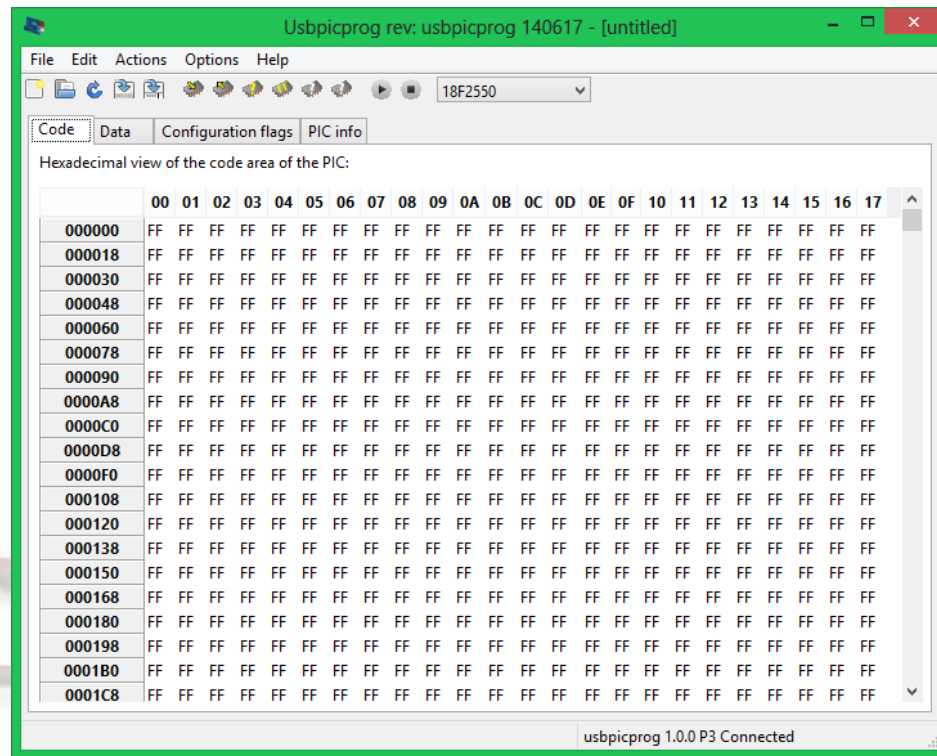

Figure:1
6) Now we can see the window as in figure:1 showing “usbpicprog connected” at the bottom right corner.